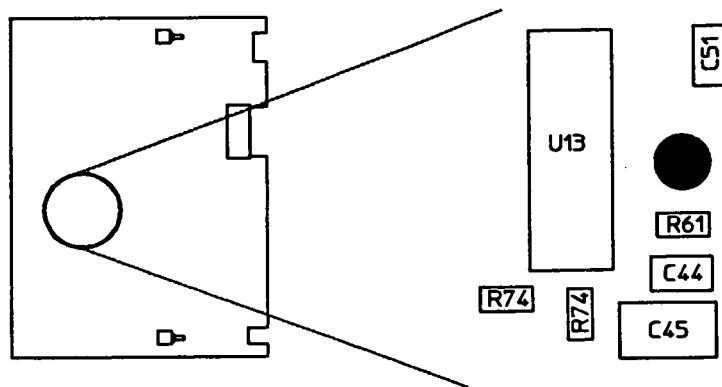

Figure 2-71. A6C40 Risetime Adjustment Location
1. Set the address of the Peak Power Analyzer to seven (7) using the following steps:
6. Remove the two screws securing the covers to the A6 Baseband Boards Housing Assembly. See figure 2-71.